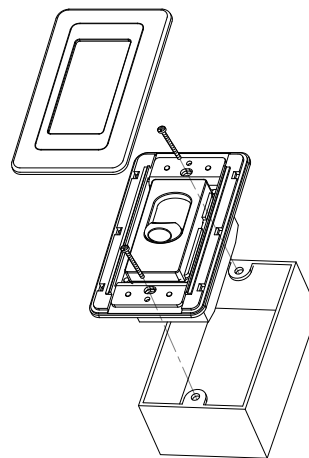

Figure 2
3. Secure the wall-mounted control to the outlet box with two screws provided. Then, the face plate clicks on the wall control. (Fig. 2)